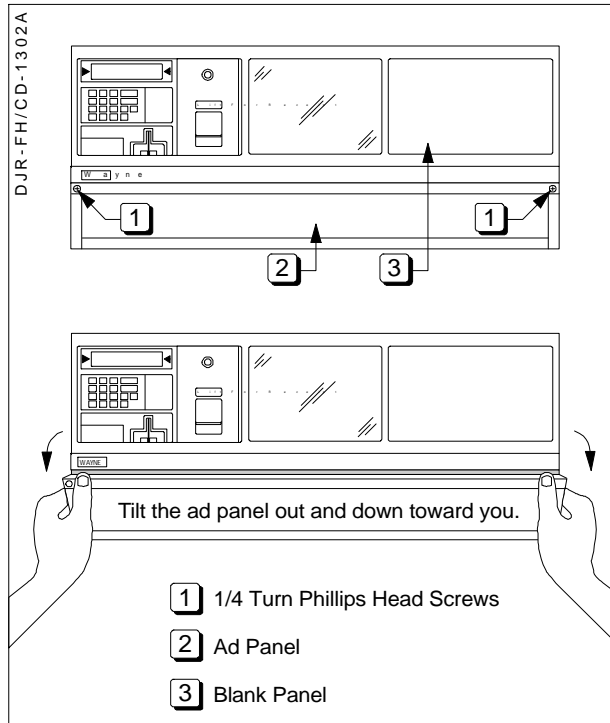

Figure 2-1 Removing the Ad Panel
3. Disengage the advertisement (ad) panels. Unsnap the ad panel by pulling forward firmly on the top edge of the panel. Refer to Figure 2-1.